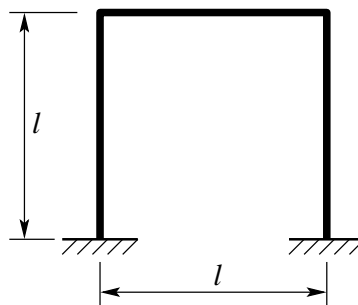

Figure 2
2. In the plane portal frame shown in Figure 2, all the joints are rigid and the flexural rigidity, EI , is uniform; the coefficient of thermal expansion is α .